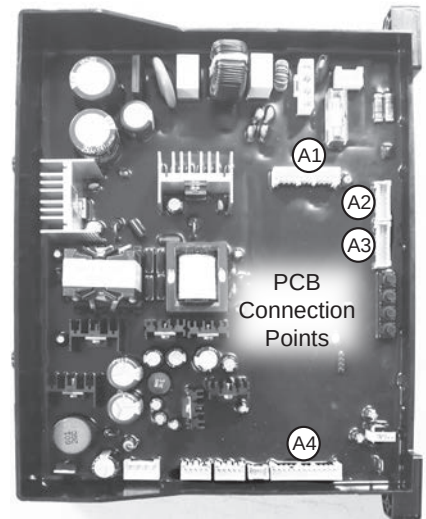

Figure 36 - Disconnecting wires A1-A4
- 12** Disconnect wiring harnesses A1 - A4. See Figure 36.